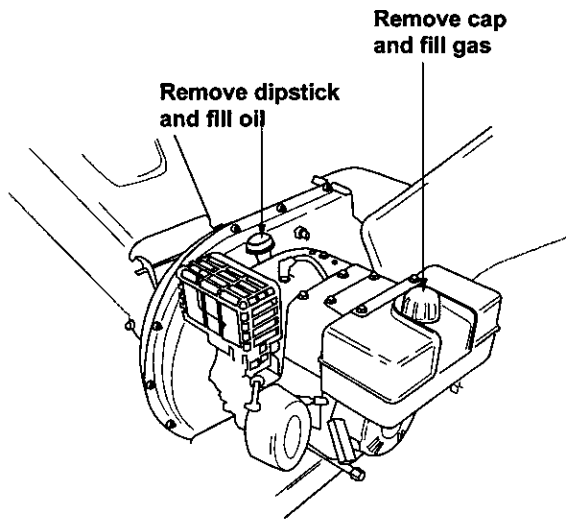

Figure 10
- Remove oil fill dipstick. See figure 10.
- Remove fuel cap. See figure 10.
- Fill fuel tank with clean, fresh, lead-free automotive gasoline. DO NOT use Ethyl or high octane gasoline. See figure 10.